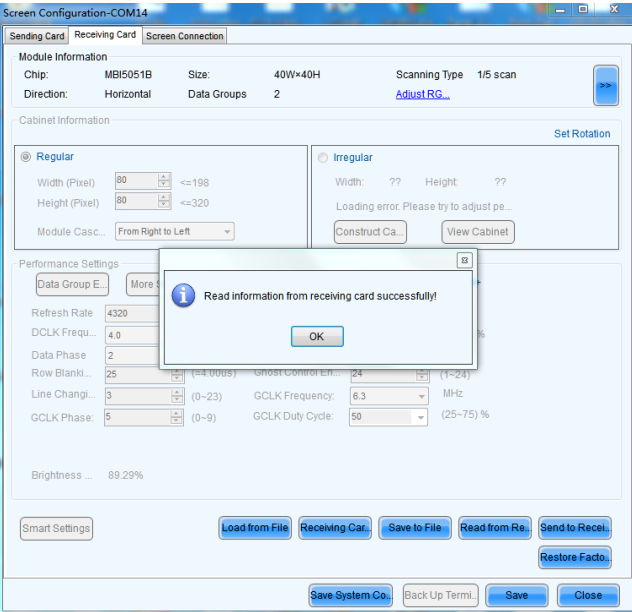

Figure A-3
c)The dialog box pops up as Figure A-3, “Read information from receiving card successfully”, click "OK".